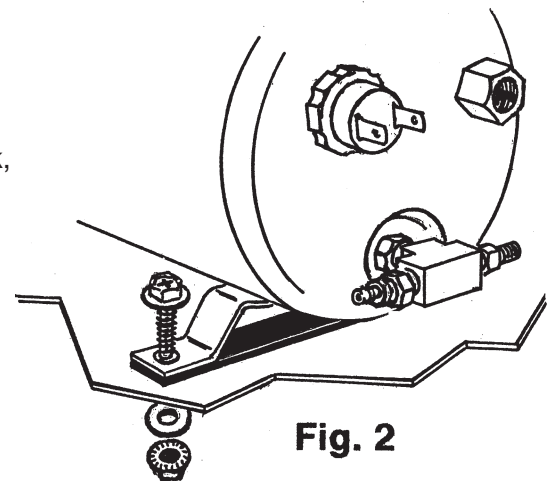

Fig. 2
4. Use the tanks mounting bracket as a template, mark the hole locations and drill to size 15/64". Secure tank with hardware provided using the rubber gasket to prevent vibration noise. (Fig.2.)